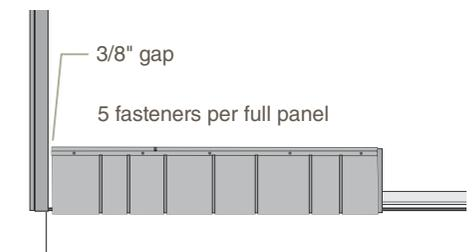

Fig. 13
- Make sure the panel is plumb and continue fastening it placing the fasteners in the center of the slots at 8"-12" intervals (Fig. 13).
- Fasten the panels by placing fasteners in the nailing flange; one in the center of the panel and two on either side, evenly placed. Keep fasteners approximately 2" in from both ends. (Fig. 13).